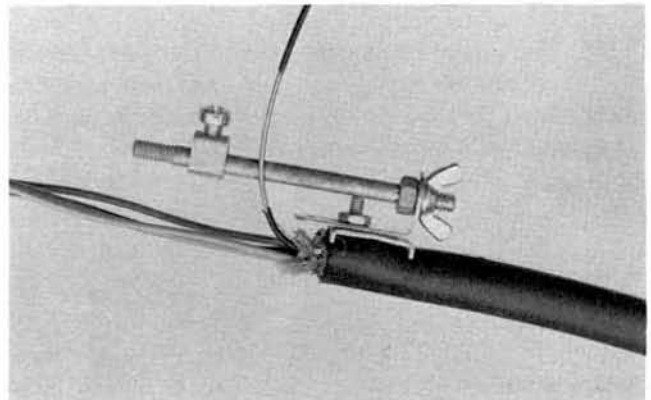
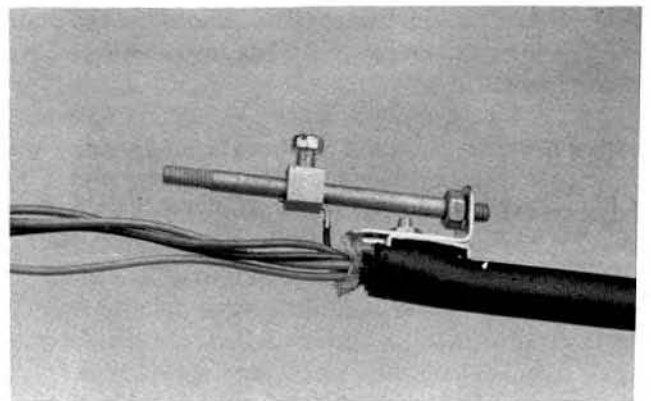

Figure 12
Figure 13
6.09 If the cable has a metallic central strength member, lead it between the buffer tubes adjacent to the Shield Connector. At the butt of the cable, bend the strength member sharply out of the center of the cable toward the Shield Connector. Select a stand-off stud and a strength member grounding clamp from the package. Insert the end of the stand-off stud with the nut on it into the hole of the Shield Connector bracket. Temporarily hold the stud in place using the wing nut included in the package. Remove the protective covering from the strength member at a point after it exits the buffer tubes. Figure 12. Bend the exposed strength member so that it lays adjacent to the stand off stud. Mark where the ground clamp will be placed and cut off excess strength member. Install the strength member grounding clamp over the exposed strength member and stand-off stud until it reaches the strength member covering. Tighten the clamp. Figure 13. Remove the wing nut that was used to hold the stand-off stud to the Shield Connector bracket.